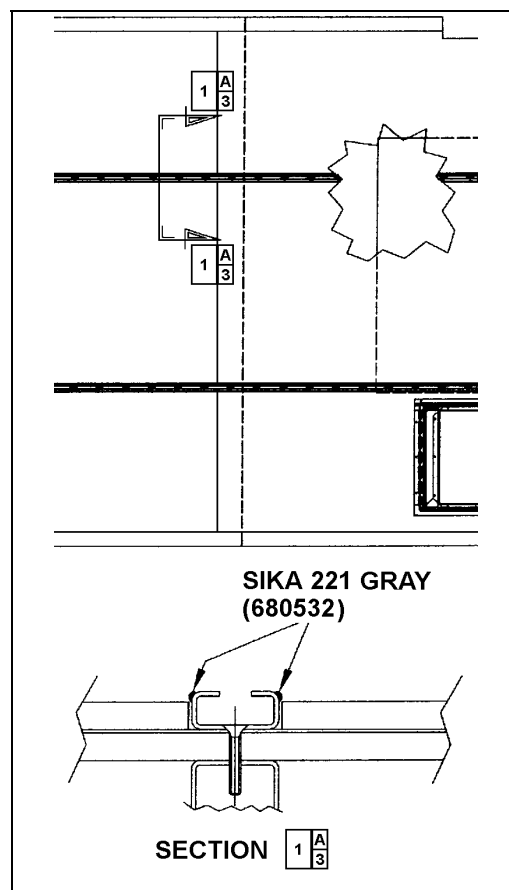

FIGURE 50: APPLICATION OF SIKA 221 GRAY
8. Apply Sikaflex 221 gray sealant (680532) alongside passenger seat fixing tracks (refer to figure 50).